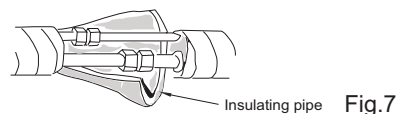

Fig.7
(4) Wrap the indoor pipe and joint of connection pipe with insulating pipe, and then wrap it with tape.(As show in Fig.7)